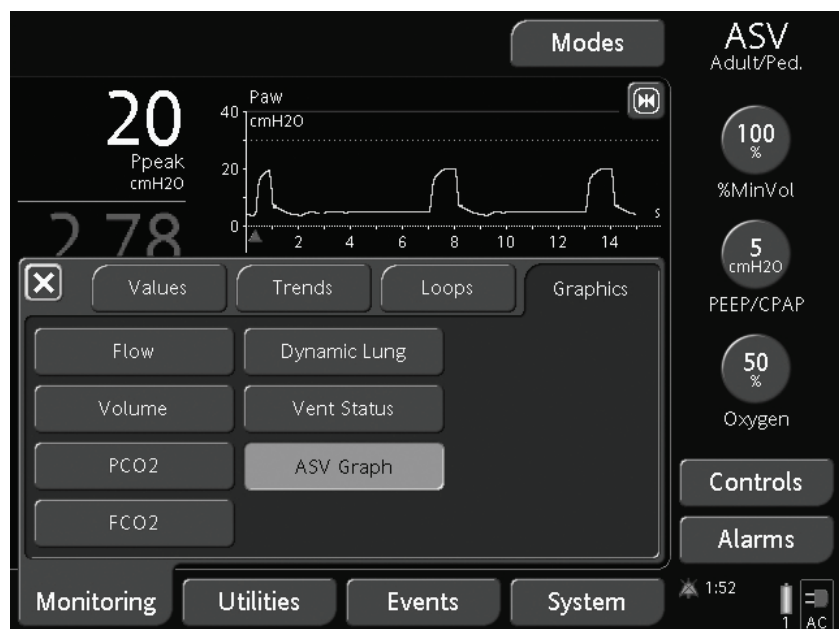

Figure 6-6. Graphics window
1. Open the **Monitoring** -> **Graphics** window (Figure 6-6) either with the window tab or by touching the graphic at the bottom of the screen.